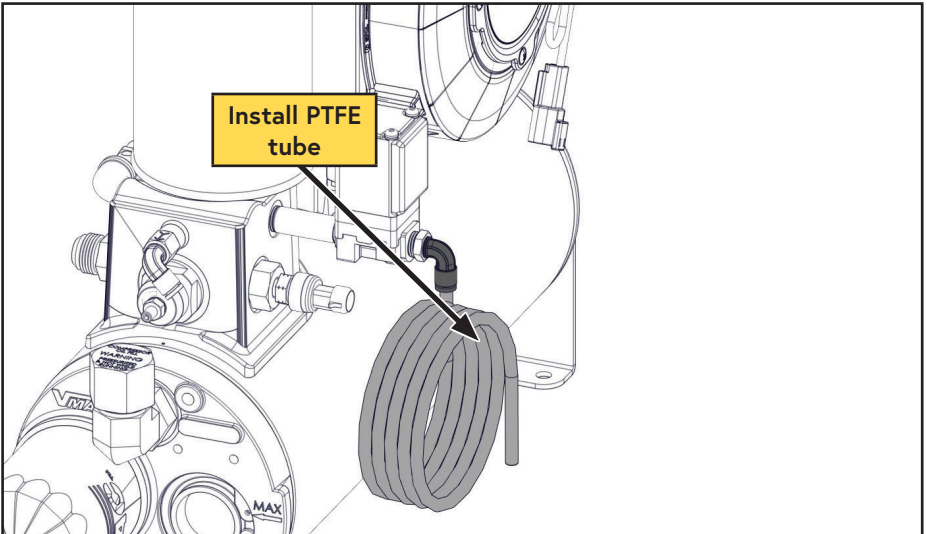

Figure 36 — Tubing Installation
- Connect the 1/4 in PTFE tube into the push-to-connect fitting installed in the WHASP Tank (Figure 36).